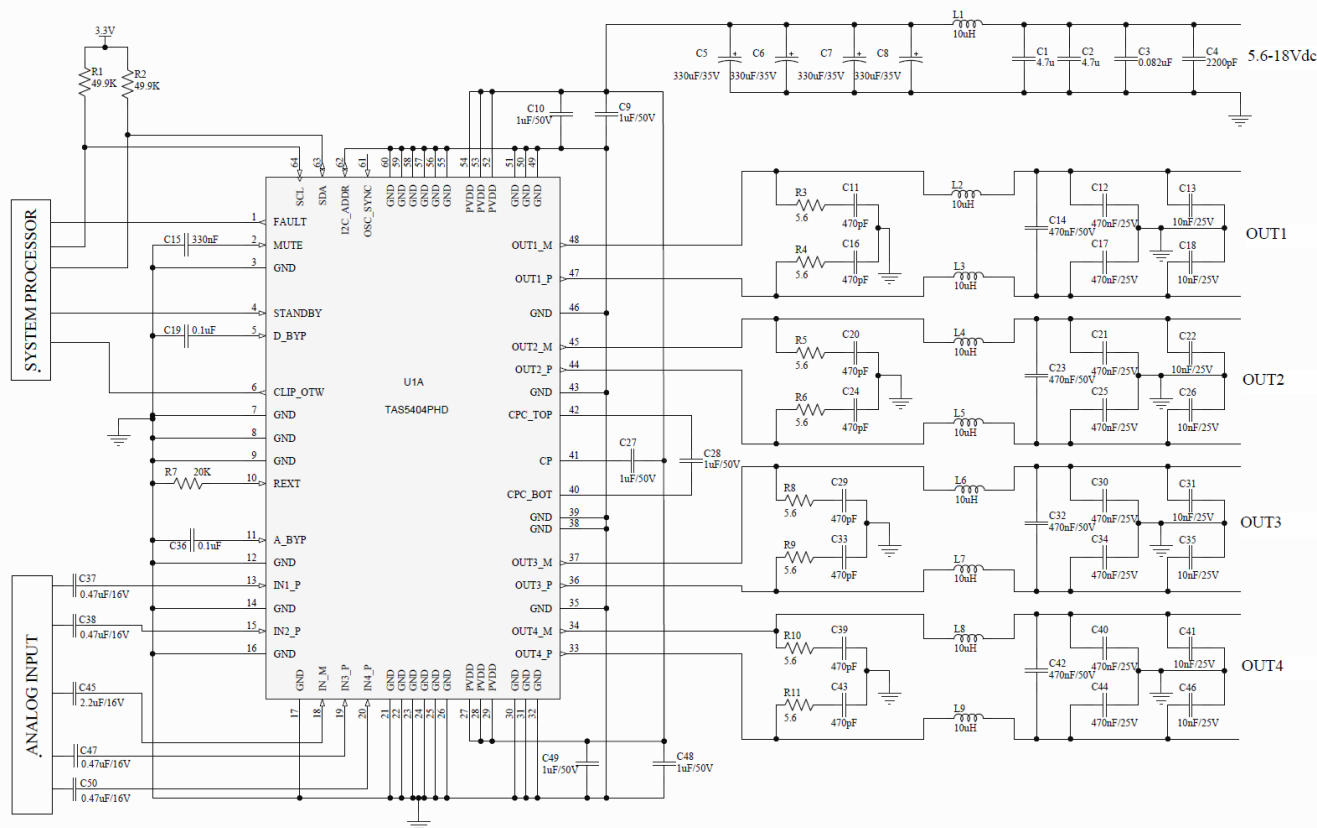

Figure 20. TAS5404-Q1 Typical Application Schematic
Figure 20 shows a typical application circuit for the TAS5404-Q1 device.
- Hardware Schematic Design: Using Figure 20 as a guide, integrate the hardware into the system schematic.